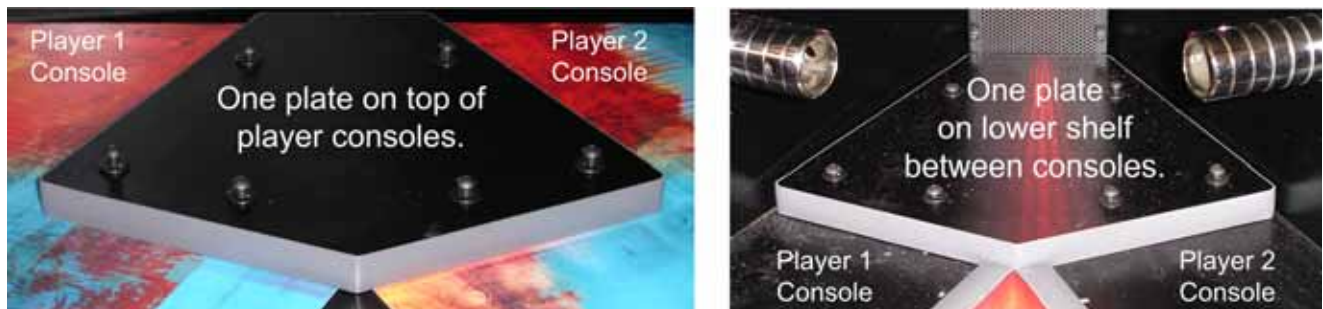

Figure 4. Securing Player Consoles with Mounting Plates
5. Refer to Figure 4 for the placement of the mounting plates. Place one mounting plate on top of the two player consoles so that it covers the seam between them. The holes in the plate will align with the holes and T-nuts in the consoles.
7. Secure each of the mounting plates with six (6) 1-½" black ¼-20 bolts and washers.